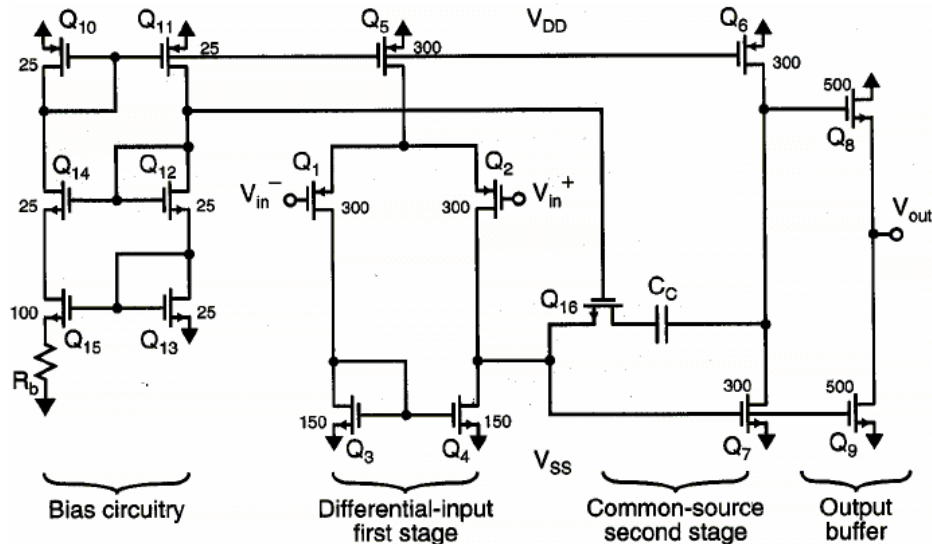

Figure 1. CMOS two-stage amplifier. All transistor lengths are $1.6\mu\text{m}$
1. First we need to decide the sizing (width W and length L) of each transistor in DA schematic design. The sizing of the transistors are listed in unit of micron in Figure 1. However, in DA schematic design, we use unit of lambda (λ). Thus we need to change the sizing of the transistors into lambdas. The lambda value is decided by the technology you use for the fabrication. Here we use AMI C5N technology. The C5N process has a feature size of $0.60\mu\text{m}$, which corresponds to a lambda (λ) value of $0.30\mu\text{m}$. Thus we can change the unit of transistor size into lambda by dividing the sizing by $0.30\mu\text{m}$. For example, as shown in Figure 1, all the transistors have length of $1.6\mu\text{m}$. In this way,